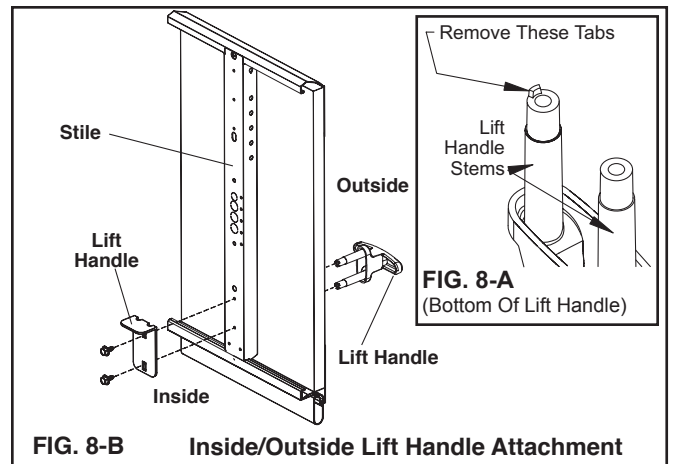

FIG. 8-B
Prior to installing, the tabs must be removed from the ends of the two cylinders protruding from the back of the plastic handle. Using pliers, twist each tab until it breaks off at the notch mark. (FIG 8-A)
Drill two 1/2" holes through the door using the dimple mark and pre-punched hole on the center stile as a template. If your door has an outside keyed lock, the hole pattern should be drilled on the bottom section directly below the lock. If your door does not have an outside keyed lock, the hole pattern should be drilled directly below the hinge closest to the horizontal center of the door. Install the lift handle & inside step plate assembly using (2) #14 x 5/8" sheet metal screws (Fig. 8-B).